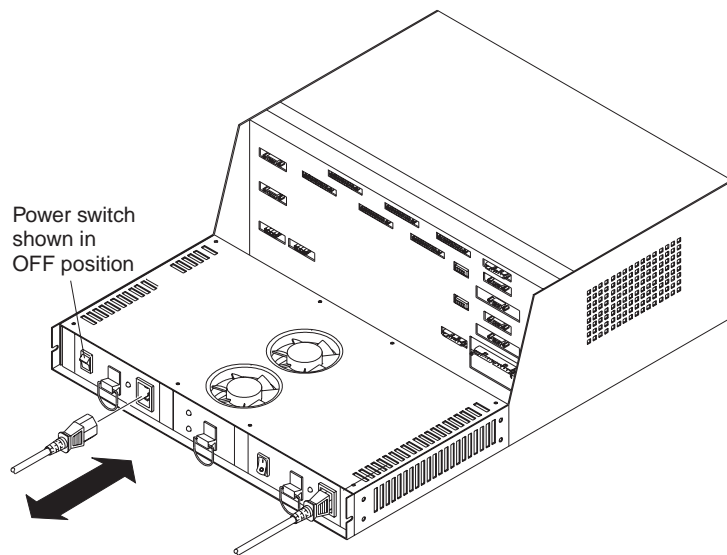

Figure 35. Power supply switches and power cords
3. Turn off the power switch and unplug the power cord from the failed power supply (see Figure 35 on page 55).
6. Plug in the power cord and turn on the power (see Figure 35 on page 55).